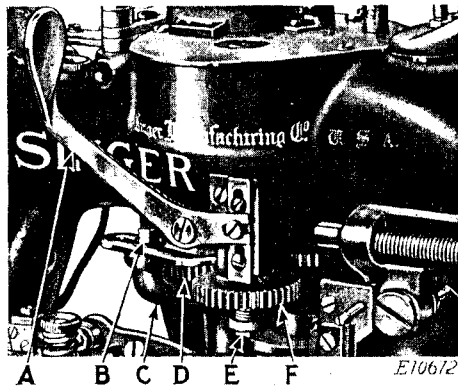
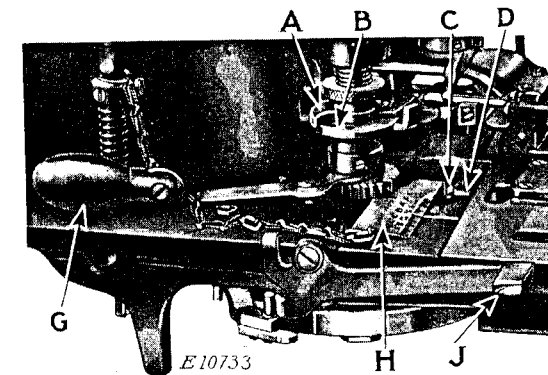

Fig. 16. Mechanism for Disengaging Stitch Regulating Gear
Fig. 17. Showing How to Regulate Length of Buttonhole
Press down the forward end of the stop lever (J, Fig. 17) and the machine will immediately stop with the needle at its highest point. Then with the right hand push the stitch gear disengaging lever (A, Fig. 16) backward to disengage the stitch regulating gear (F, Fig. 16) and while holding the lever (A) backward, operate the hand ratchet lever (G, Fig. 17) with the left hand until the work clamps are moved to the desired position.
To reengage the stitch regulating gear (F), release the disengaging lever (A, Fig. 16) and operate the machine slowly by means of the hand ratchet lever (G, Fig. 17) until the slot in the stitch regulating gear engages the driving pin in the shaft.
**CAUTION:** Under no circumstances can the machine be hand ratcheted unless the stitch regulating gear (F, Fig. 16) is disengaged. When changing the stitch regulating gear, be sure that the gear slides freely on the shaft and clamping nut sleeve (E, Fig. 16).
Remove the slide from the left side of the bed of the machine. The gauge (H, Fig. 17), furnished with the machine, is marked
according to the style of bar and with numbers corresponding to the different lengths of buttonholes that can be made by the machine. The gauge (H) is also marked with the letters A, B and C which correspond to similar letters stamped on the collar (B, Fig. 17) of machines fitted with thread trimmers, for positioning the needle thread retrimming cam.
Loosen the nut (C, Fig. 17) and place the gauge in the slide-way as shown in Fig. 17, having the number on the gauge for the desired length of buttonhole opposite the line in the slideway. Then move the regulating lever (D, Fig. 17) until the sleeve under the nut (C) rests against the downwardly projecting part of the gauge and tighten the nut (C). Now, raise the cam (A, Fig. 17) and turn it until the pin enters either of the holes A, B or C, in the collar (B) according to the letter indicated on the gauge opposite the length of buttonhole for which the machine is being adjusted. Then replace the slide in the bed of the machine.
The number of stitches in the buttonhole is controlled by the stitch regulating gear (F, Fig. 16) at the right hand side of the machine. When it is desired to change the number of stitches in the buttonhole, it will only be necessary to change the stitch regulating gear. To remove this gear, loosen the screw (B, Fig. 16) and swing the bracket (C, Fig. 16) with the large gear (D, Fig. 16) out of mesh with the stitch regulating gear (F). Then remove the nut (E, Fig. 16) and remove the stitch regulating gear (F) from its shaft.
Having selected the gear desired, place it in position on its shaft and securely fasten it with the nut (E, Fig. 16) below it. Swing back the bracket (C, Fig. 16) as far as it will go so as to bring the large gear (D, Fig. 16) into mesh with the stitch regulating gear (F, Fig. 16), then securely tighten the screw (B, Fig. 16).